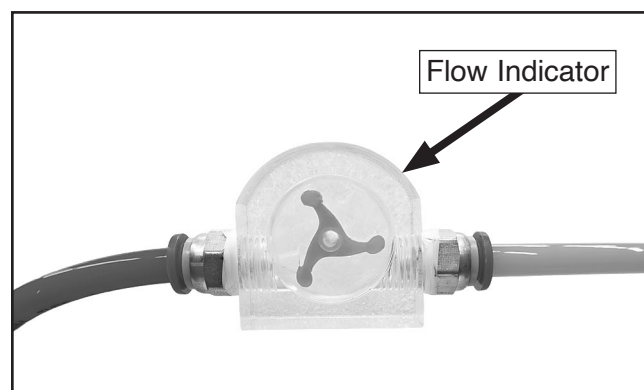

Figure 11. Location of flow indicator.
5. Verify cooling pump starts and runs smoothly without any unusual problems or noises, and flow indicator begins rotating (see **Figure 11**).